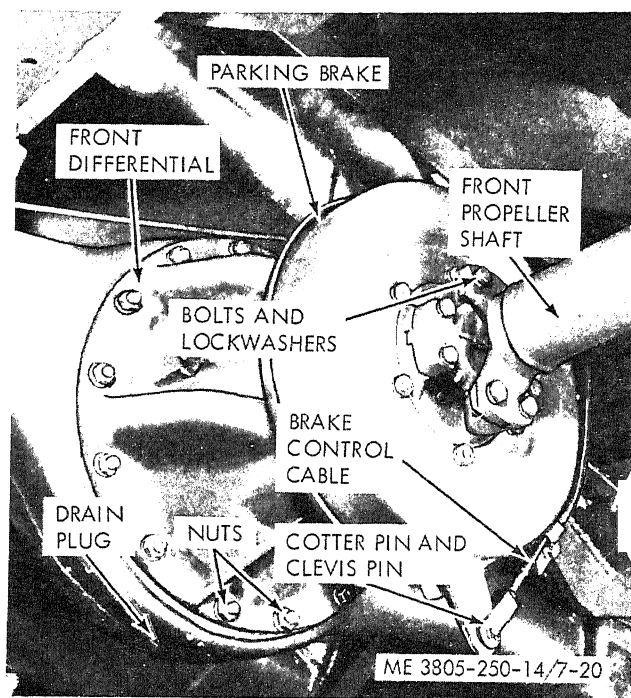

Figure 7-20. Front differential removal and installation.
(1) Drain the oil from the axle housing (para 4-41).
(2) Refer to figure 7-20, and remove the cotter pin and clevis pin securing the brake control cable to the parking brake.
(9) Support the weight of the differential and remove the attaching nuts and lockwashers, figure 7-20. Use a soft hammer to tap the differential carrier to break the seal with the axle house.